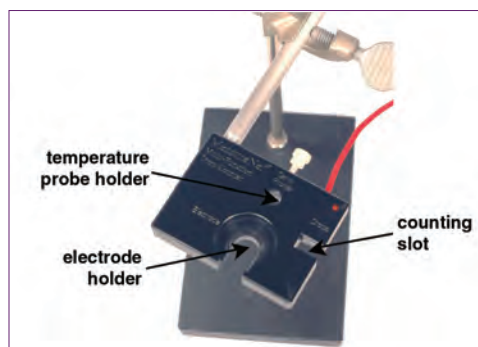

Figure 7.5. Drop counter.
1. Obtain the equipment listed above and complete the setup of the drop counter and pH electrode as shown in Figures 7.5 and 7.6.